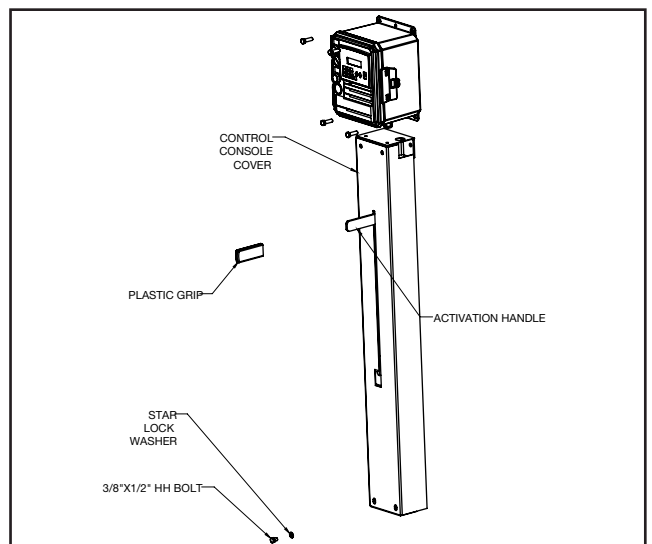

Figure 5-4-18 Replace control console cover
Replace cover on control console and secure with (4) 3/8"x1/2" bolts and star lock washers. Slide plastic grip on to activation handle. See Figure 5-4-18.